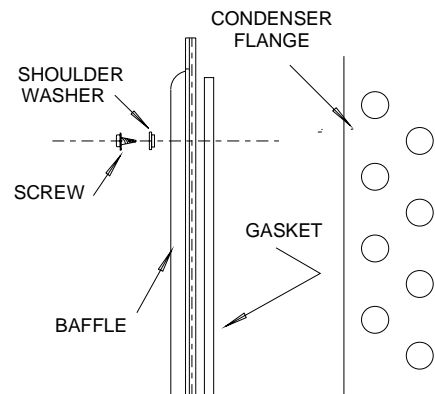

Figure 2
- Using the screws and shoulder washers provided, secure the grille to the condenser flange. **NOTE:** Be sure to install the gasket between the grille and the flange as shown in Figure 2.